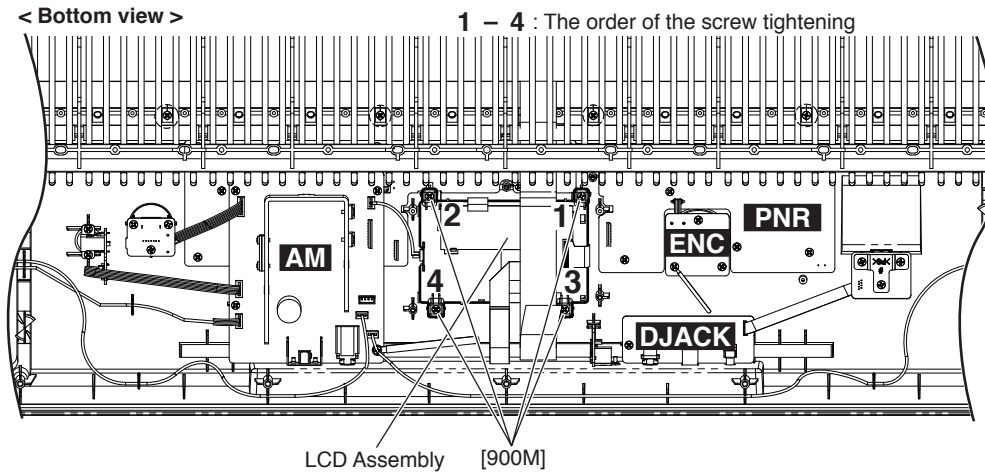

Fig.4
- 3-3 Remove the four (4) screws marked [900M]. The LCD assembly can then be removed. (Fig.4)
* *When the LCD assembly is assembled, tighten the screws marked [900M] in the order of 1, 2, 3 and 4. (Fig.4)*